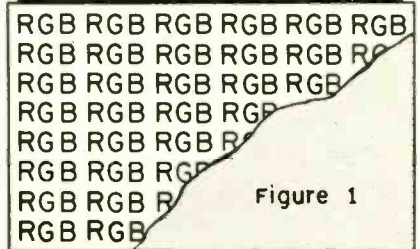

Figure 1
(1) Each picture point may be successively scanned in each of the primary colors, as shown in *Fig. 1*. Because of the difficulty of registration of any mosaic on the fluorescent screen, this method does not seem feasible. In addition, this method suffers from "aperture distortion" since the moving spot of the electron beam is of the same order as the elements of the mosaic. Furthermore, light storage does not seem possible in this system.
(2) Each picture line can be successively scanned in each of the three primary colors. This method suffers from the same defects mentioned under (1) above.
(3) Each picture frame is succes-